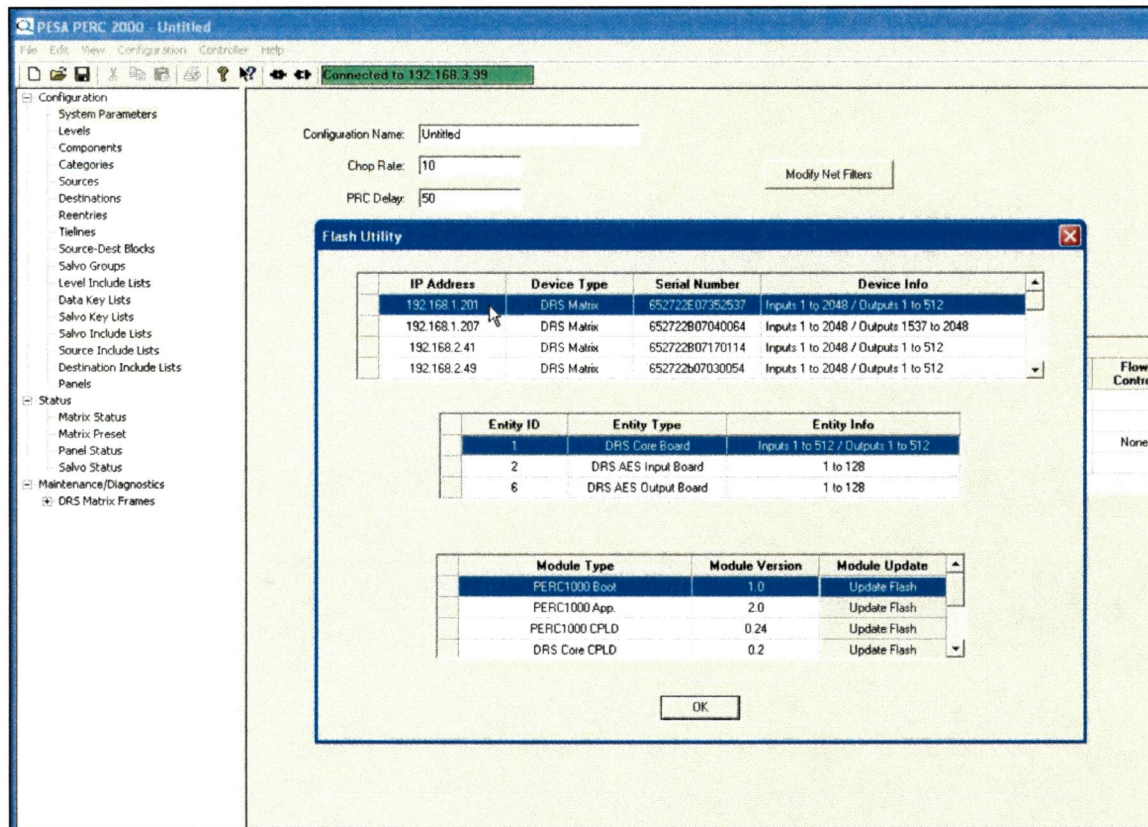

Figure 23. Flash Utility Screen
4. This will bring up the Flash Utility window as shown in Figure 23. All devices in the system that are under control of the GUI and assigned an IP address are displayed in the top box of the window. Locate the P1K frame controller you wish to update by IP address, it will be listed as Device Type DRS Matrix, and click on the entry. The entry is highlighted as an indication it is the device chosen for flash update.
5. The middle pane of the Flash Utility window identifies the entities within the selected DRS matrix, and lists them in the column titled Entity Type. An entity is any of the components making up the matrix such as the DXE Core Board (listed as DRS Core Board) and the audio input and output boards. Clicking on any entry in the Entity ID list selects that entity as the component on which you wish to perform flash memory reprogramming and determines which firmware/software modules are listed in the Module Type pane, as discussed in Paragraph 6. Firmware modules for the P1K controller are contained in the same list as the DXE Core Board. In order to access the P1K firmware module for reprogramming, be sure that the **DRS Core Board** entry in the Entity ID listing is highlighted, as shown in Figure 23.